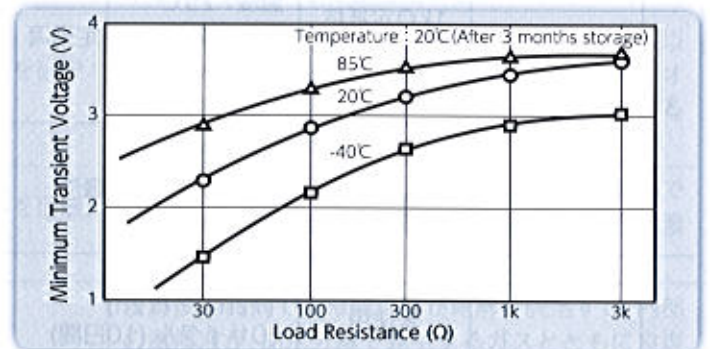
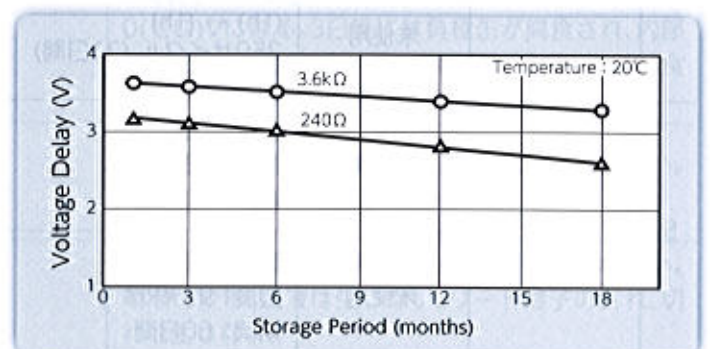

Fig. 2 Voltage Delay - Load Resistance
Fig. 3 Voltage Delay - Storage Period
- When the current is in the micro-ampere order, the voltage drop will not create problems, but when the current is over a few milli-amperes, the voltage drop becomes noticeable. Fig. 2
- This phenomena occurs more prominently at lower use temperatures, higher storage temperatures, and longer storage periods. Fig. 2, Fig. 3